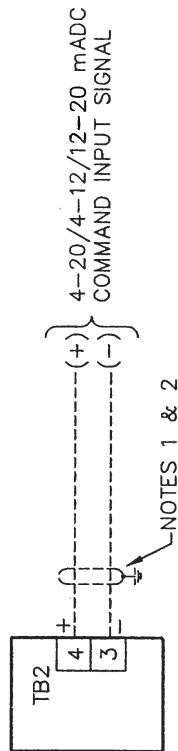

FIGURE 4B CURRENT COMMAND INPUT SIGNAL
3. SEE FIGURE 4B FOR REQUIRED DIP SWITCH SETTINGS.